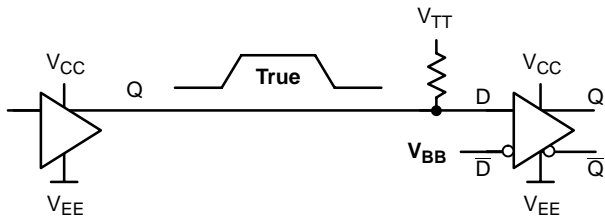

Figure 4. Standard SE Receivers with V_{BB}
For a standard differential receiver with two input pins – D and \bar{D} – only one of two inputs is suitably selected to receive the signal while the non-driven input must be biased to a (DC) reference voltage, V_{BB} (see Figure 4).